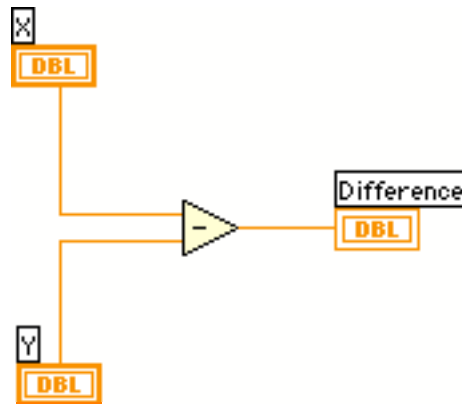

Figure 1-6. Subtract Operation in LabVIEW®
8. Before continuing, you need some background. Math operations are programmed using triangular icons. All operations used here are binary, meaning they have two inputs. For example, the subtract icon in Figure 1-6 has two inputs on the left and one output on the right. To subtract Y from X (as shown below), you connect **X** to the upper left corner and **Y** to the lower left corner. The difference (answer) is then available at the right corner.